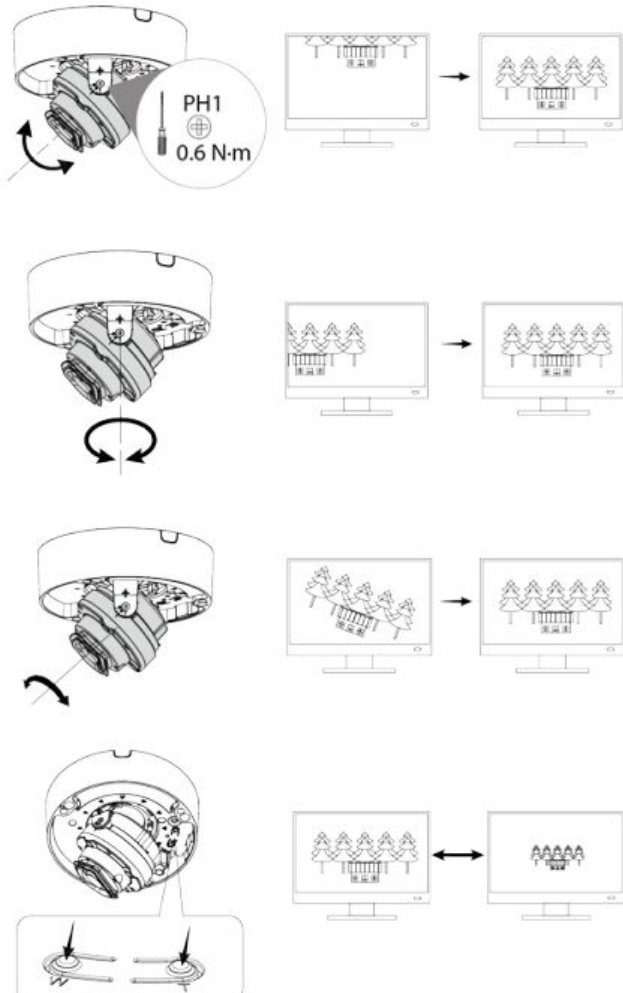

Figure 2-5
Step 4: Adjusting Lens Angle: Use the supplied hex wrench to remove the dome cover. Rotate the camera as needed. Loosen the adjustment screw in the side to adjust angle up and down. Tighten down the adjustment screw when finished. See Figure 2-5.